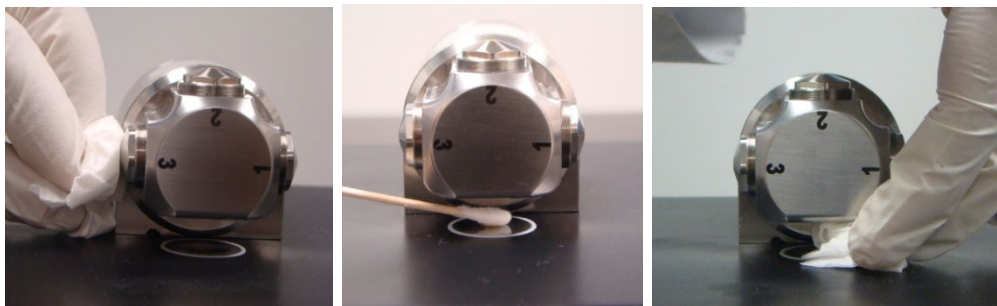

Figure 15. Cleaning the DialPath Position 3 window (left) and cleaning the sample mounting area.
- 2** Clean the window of the position last used for analysis, using a cotton swab dipped in acetone (see Figure 15, which shows cleaning Position 3).
- 3** Clean the bottom sample mounting area (see Figure 15).